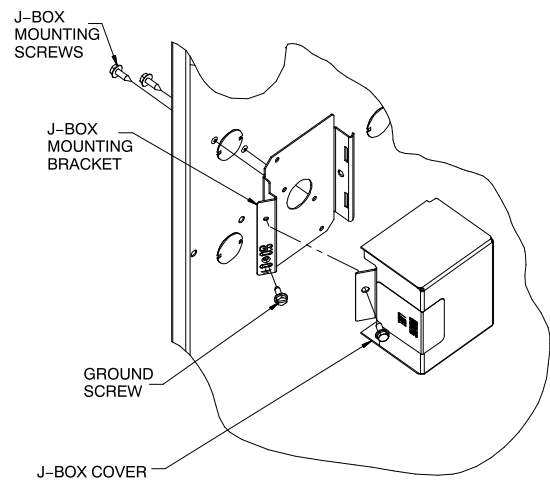

Fig. 34 – Installing J-Box (When Used) A12226
The J-Box cover, mounting bracket and screws are shipped in the loose parts bag included with the furnace. See Fig. 34 for J-Box mounting locations.
1. Install J-Box mounting bracket to inside of furnace casing. See Fig. 34.
5. Connect field ground wire and factory ground wire to green ground screw on J-Box mounting bracket as shown in Fig. 34.
7. Attach furnace J-Box cover to mounting bracket with screws supplied in loose parts bag. Do not pinch wires between cover and bracket. See Fig. 34.
4. Connect field ground wire and factory ground wire to green ground screw on J-Box mounting bracket as shown in Fig. 34.